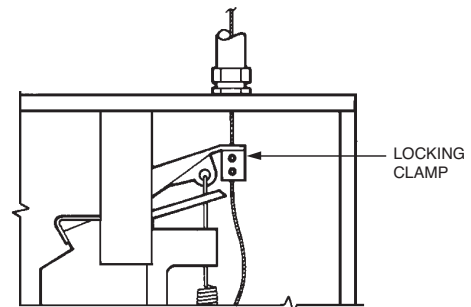

FIGURE 47
2. Starting at the regulated release assembly, feed wire rope up through hole in regulated release mechanism locking clamp, allowing excess wire rope to hang down. (Do not tighten set screws in locking clamp at this time.) See Figure 47.